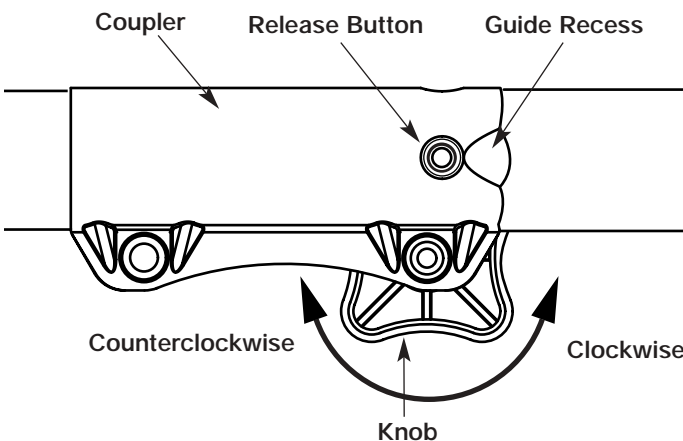

Fig. 1
**NOTE:** Aligning the release button with the guide recess will help installation (Fig. 1).
1. Turn the knob counterclockwise to loosen (Fig. 1).
2. Press and hold the release button (Fig. 1).
2. Turn knob counterclockwise to loosen (Fig. 1).